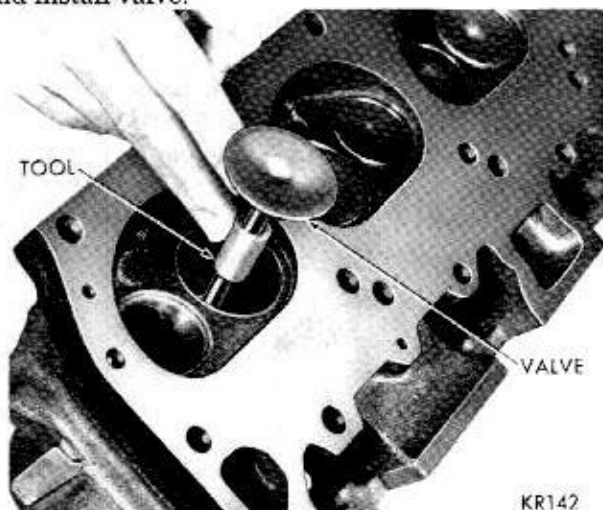

Fig. 9—Installing Valve and Tool C-3973
(1) Clean valves thoroughly, and discard any burned, warped or cracked valves.
(2) Measure valve stems for wear. Refer to specifications for proper size. If wear exceeds .002 inch, replace the valve.
(3) Remove carbon and varnish deposits from inside of valve guides with a reliable guide cleaner.
(4) Measure valve stem guide clearance as follows: Install sleeve Tool C-3973 over valve stem (Fig. 9) and install valve.